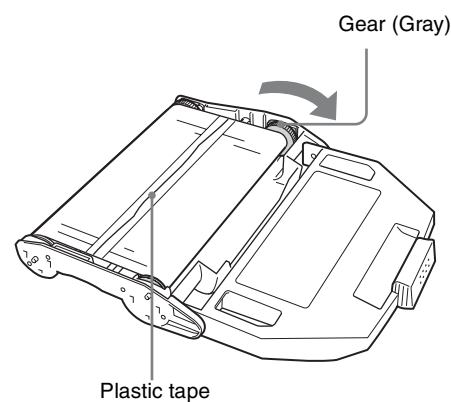

Figure 3.10
- 1** Connect the torn sections with transparent plastic tape (see Figure 3.10).
- 2** Turn the gray gear on the take-up side in the direction of the arrow to take up the ink ribbon until the plastic tape is invisible (see Figure 3.10). Be sure to remove slack from the ink ribbon.